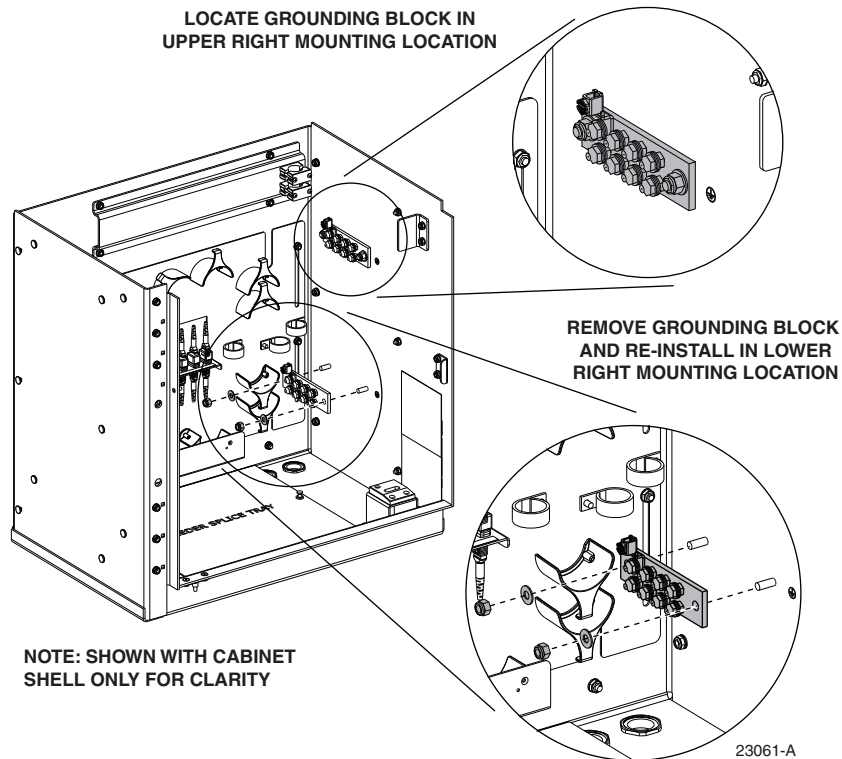

Figure 25. Grounding Block Relocation
2. Locate the grounding block that is mounted on the upper right side of the cabinet as shown in Figure 25.
4. Re-install the grounding block on the lower right side of the cabinet (see Figure 25) using the nuts and washers removed in step 3.